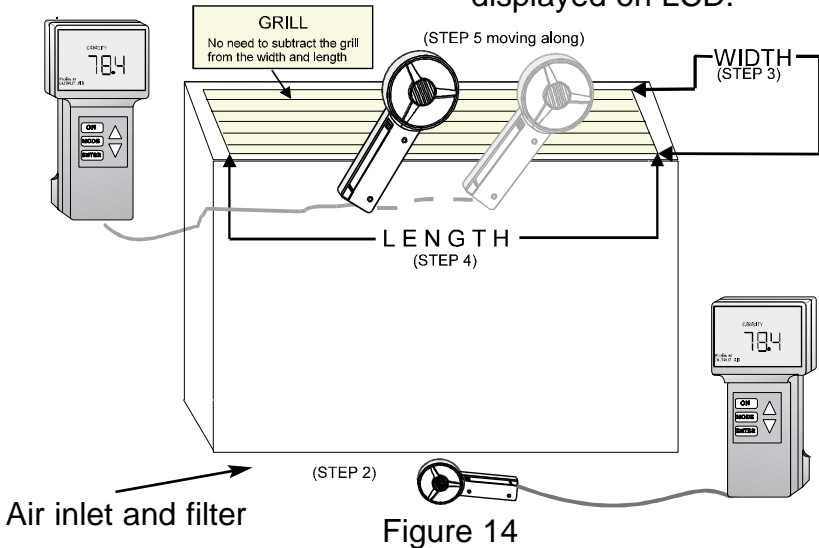
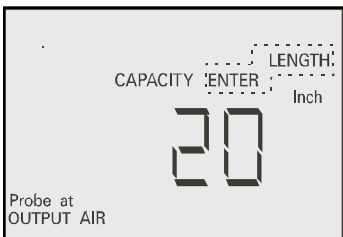
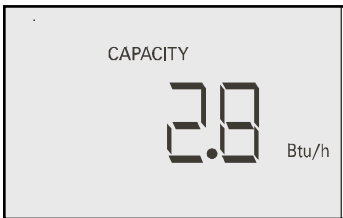

Figure 14
Figure 15
Figure 18
NOTE: When measuring return air it is recommended that the FAN SPEED IS SET ON HIGH and the probe is placed at the center of the inlet grill. (no movement is necessary during this measurement) (See Fig. 14)
5.5.4 Using the ∇/Δ buttons enter the outlet's width, in inches and press ENTER (Fig.14 step 3). Flashing "ENTER LENGTH" will be displayed on LCD.
5.5.5 The VA500A is requesting the A/C outlet's length. Using the ∇/Δ buttons enter the outlet's length, in inches. (Fig.14 step 4 & Fig.15) **DO NOT PRESS ENTER UNTIL STEP 5.5.7**
5.5.8 Measure for one minute (Fig.14 step 5) making sure to move the probe over the complete area of the grill (Ref. Step 5.4.6) Aim at getting an average reading from all available openings. At the end of one minute the unit will beep and the LCD screen will display the results in Btu/h.(Fig.18)